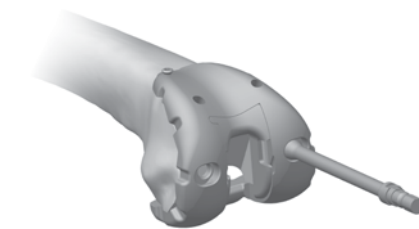
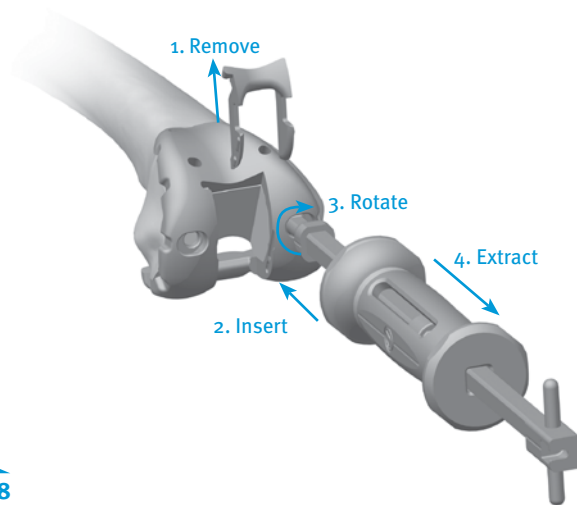

Fig. 37
Fig. 38
- Drill the peg holes for the femoral implant through the PS Femoral Provisional with the NexGen 6.4mm Patella/Femoral Drill (Fig 37). Remove the screw from the anterior flange in the PS Femoral Provisional. Remove the PS Box Provisional. The Slaphammer can be used to remove the PS Femoral Provisional from the bone using the medial hole on the PS Femoral Provisional (Fig 38). Alternatively, the Femoral Inserter/Extractor can be re-attached to the PS Femoral Provisional to remove it from the bone. If necessary, insert the Slaphammer in the extraction hole of the Femoral Inserter/Extractor to facilitate removal.